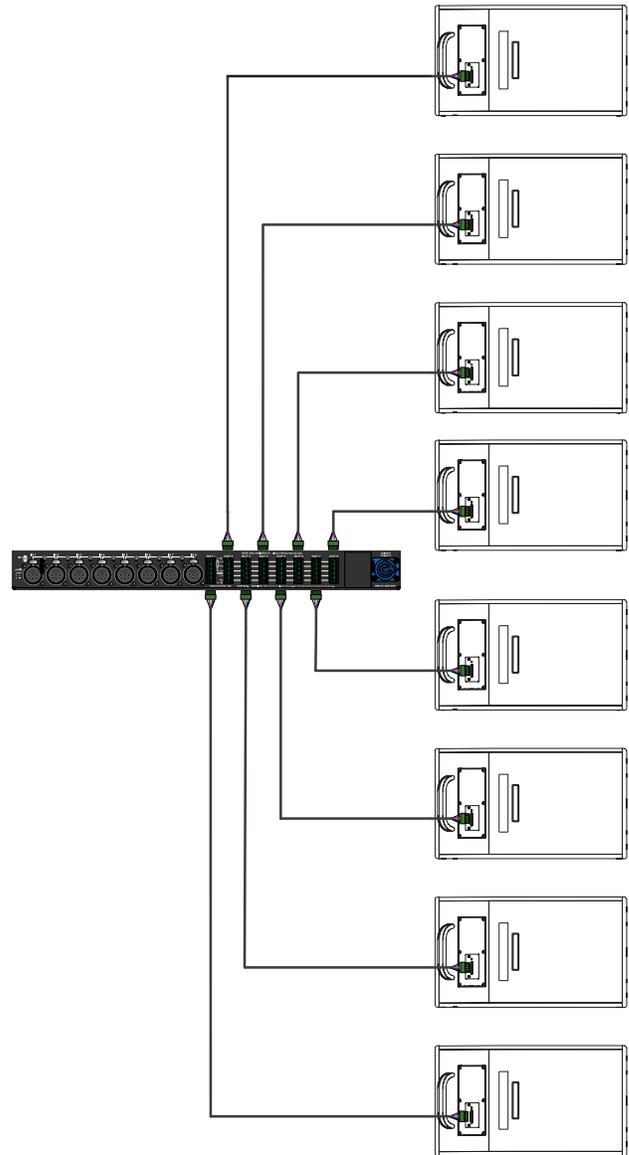

Figure 7: MPS-488HP with Eight USW-112XP Loudspeakers
4. Connect the USW-112XP loudspeakers to the MPS-488HP Channel Outputs (Figure 7).